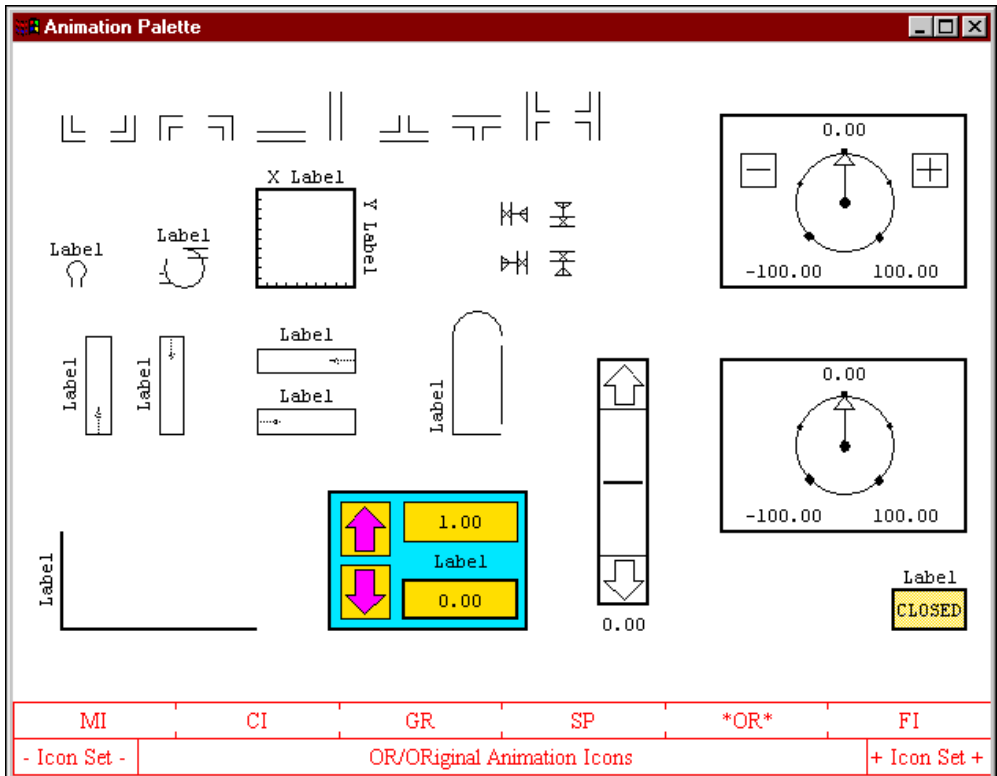

Figure 2-10. Original Animation Icons (Palette OR)
- **Original Animation Icons (OR)**—The original **Animation Icons Palette**, shown in Figure 2-10, contains the original set of IA icons (mainly pump, piping, and valve icons) used for industrial control systems.